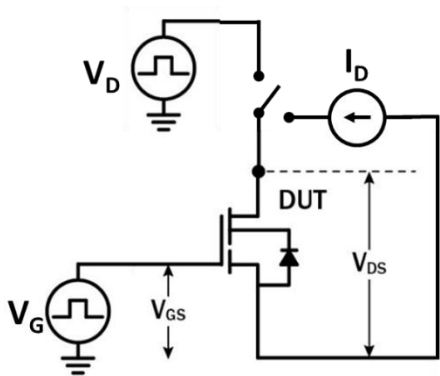

Figure 17. Dynamic  $R_{DS(on)eff}$  Test Circuit
- a. Dynamic on-resistance; see Figures 17 and 18 for test circuit and conditions